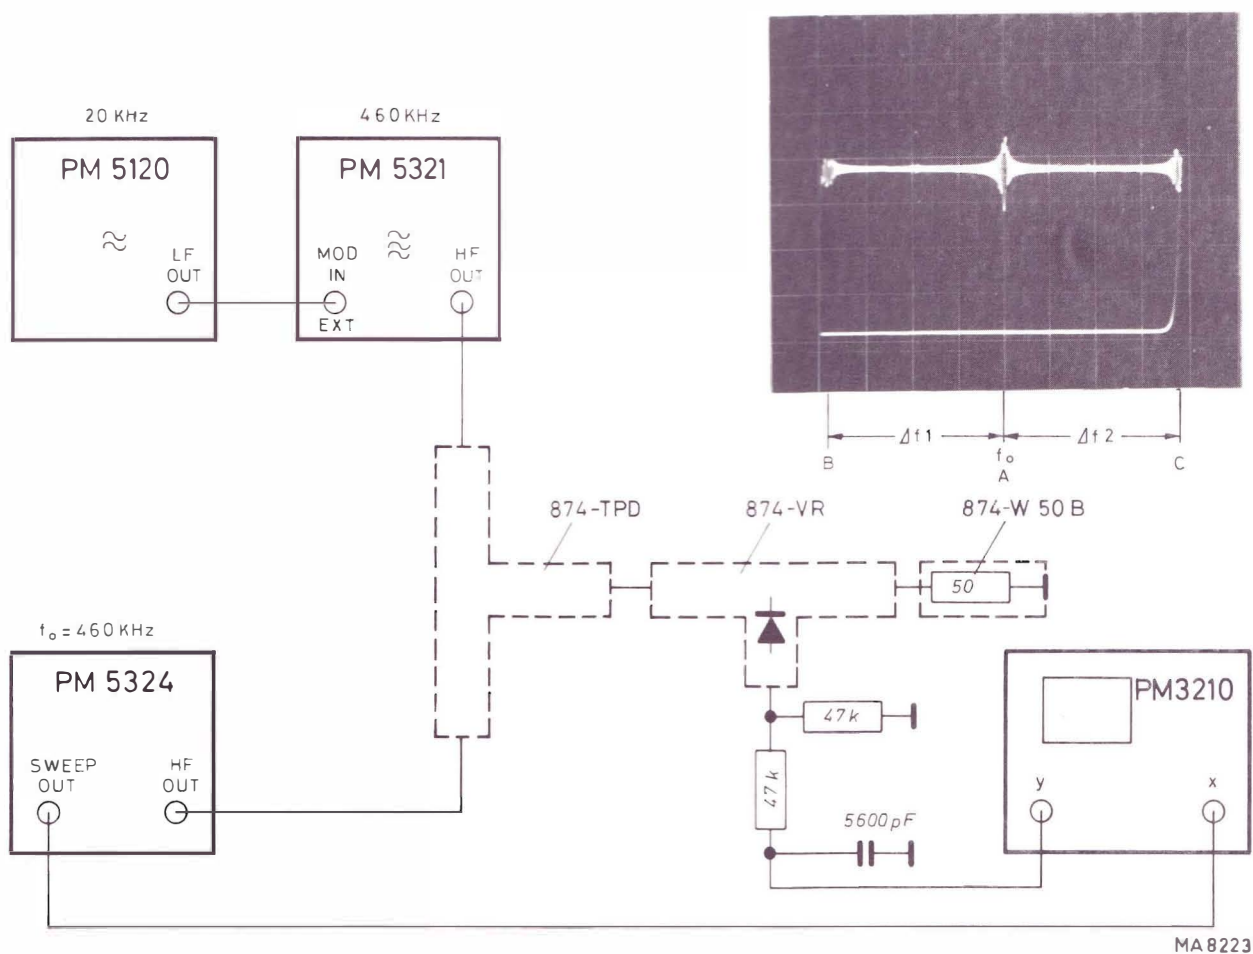

Fig. 31. Measuring set-up to determine the frequency sweep and the symmetry
- Set-up the arrangement according to Fig. 31